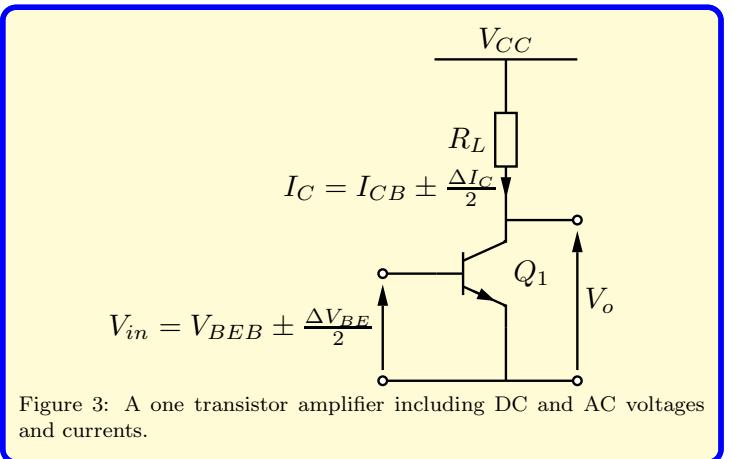

Figure 3: A one transistor amplifier including DC and AC voltages and currents.
In Fig. 3, the changes in collector current, ΔI_C , are converted into an output signal voltage using a resistor, R_L . An input voltage of (1),